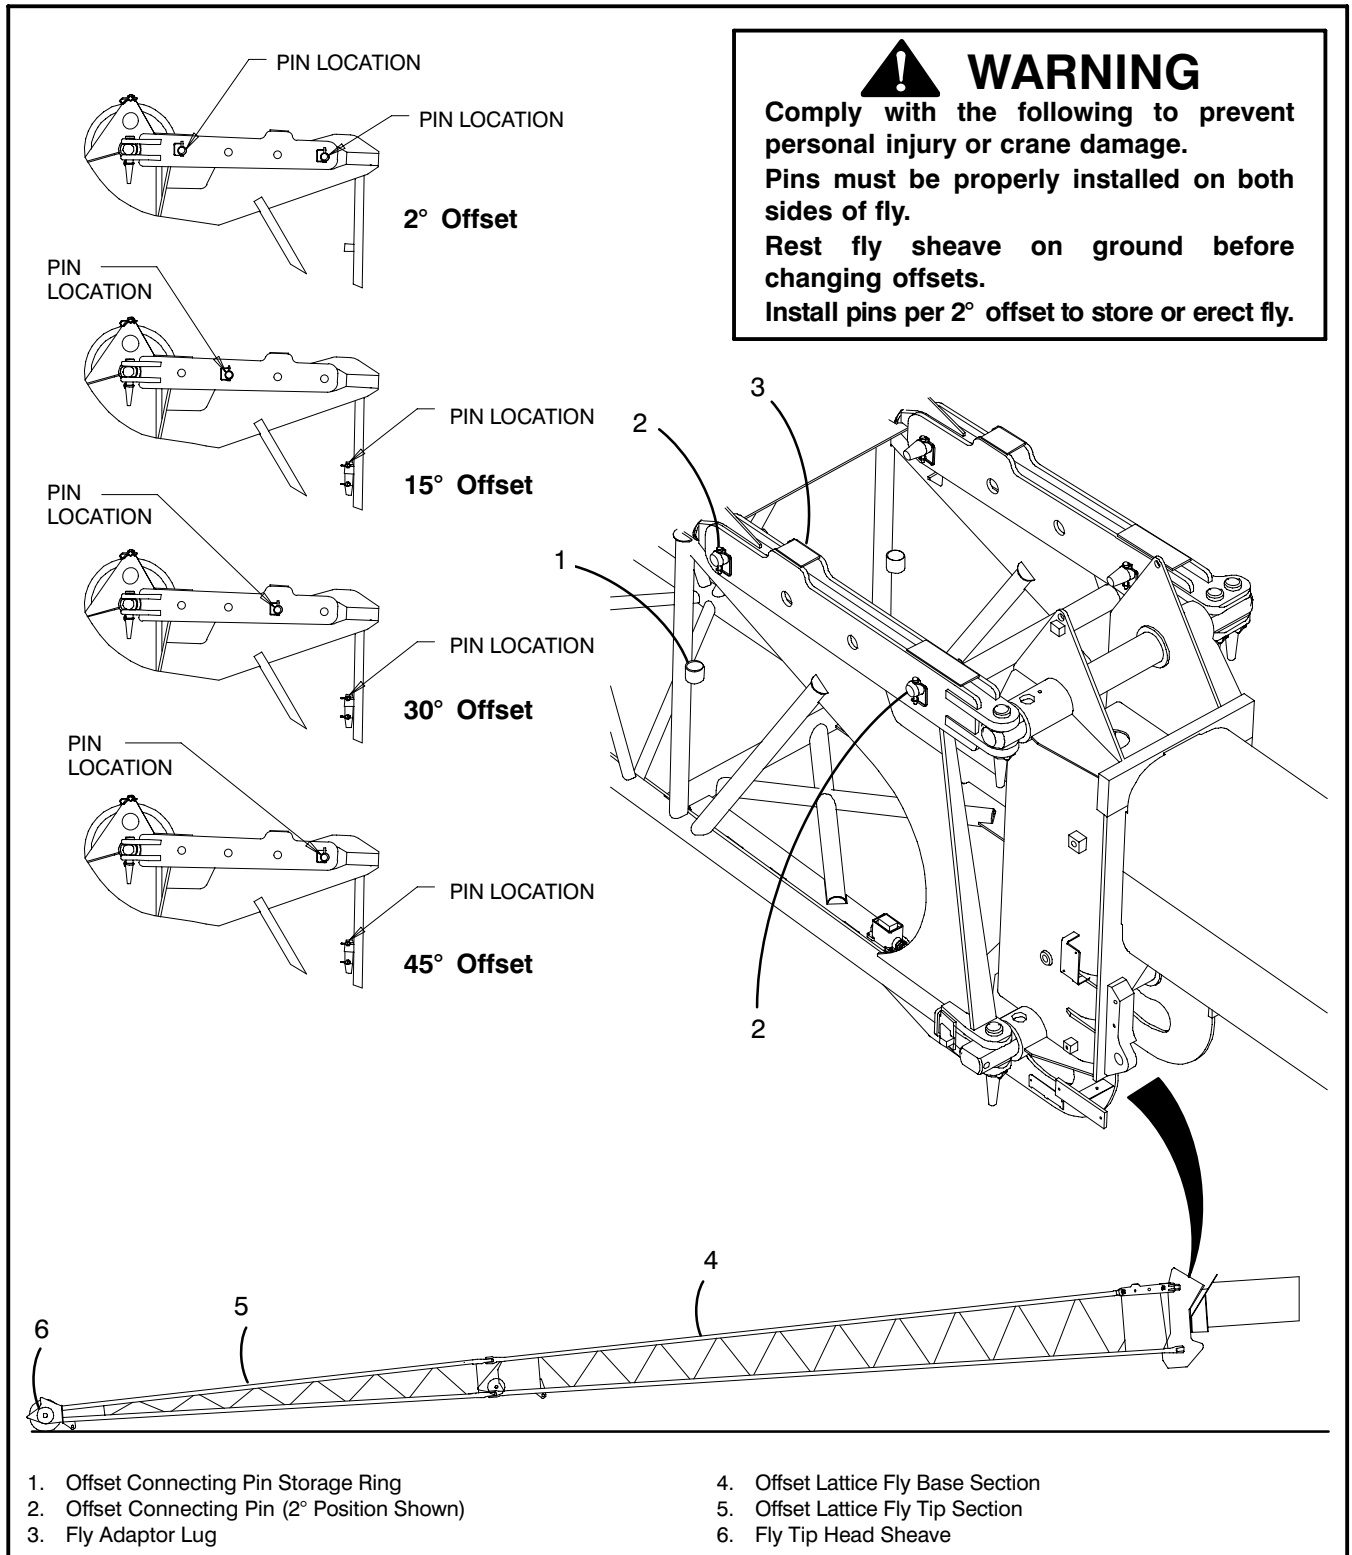

Figure 4–6
5. Check that the fly adaptor lug and offset connecting pins are installed in the 2° offset position. Refer to Figure 4–6. If necessary, change the fly offset to the 2° position. Refer to “Changing The Fly Offset” in this Section of this Operator's Manual for detailed instructions.
10. Securely block up the fly sections to support it. Refer to Figure 4–5. The fly base section weighs approximately 1,600 lb (726kg) and the fly tip section approximately 700 lb (318kg).
11. Remove the six fly connecting pins and store four of the pins and keepers in the storage rings at the rear of the fly. Install the remaining two pins and keepers in the storage holes on the left side of the boom head machinery cross shafts to prevent the shaft from rotating. Refer to Figure 4–4.
- a. Remove the lockout clip from the main boom anti-two block switch weight cable. Refer to Figure 4–2.
7. Install the offset connecting pins in the correct location for the desired offset angle. Use the information label, on the offset lattice fly section, to determine the correct offset connecting pin locations for the desired offset angle of the fly. Refer to Figure 4–6.